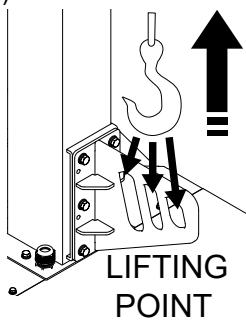

Figure 15. Lifting Point
1. Three lifting points are available with the cart (Figure 15).